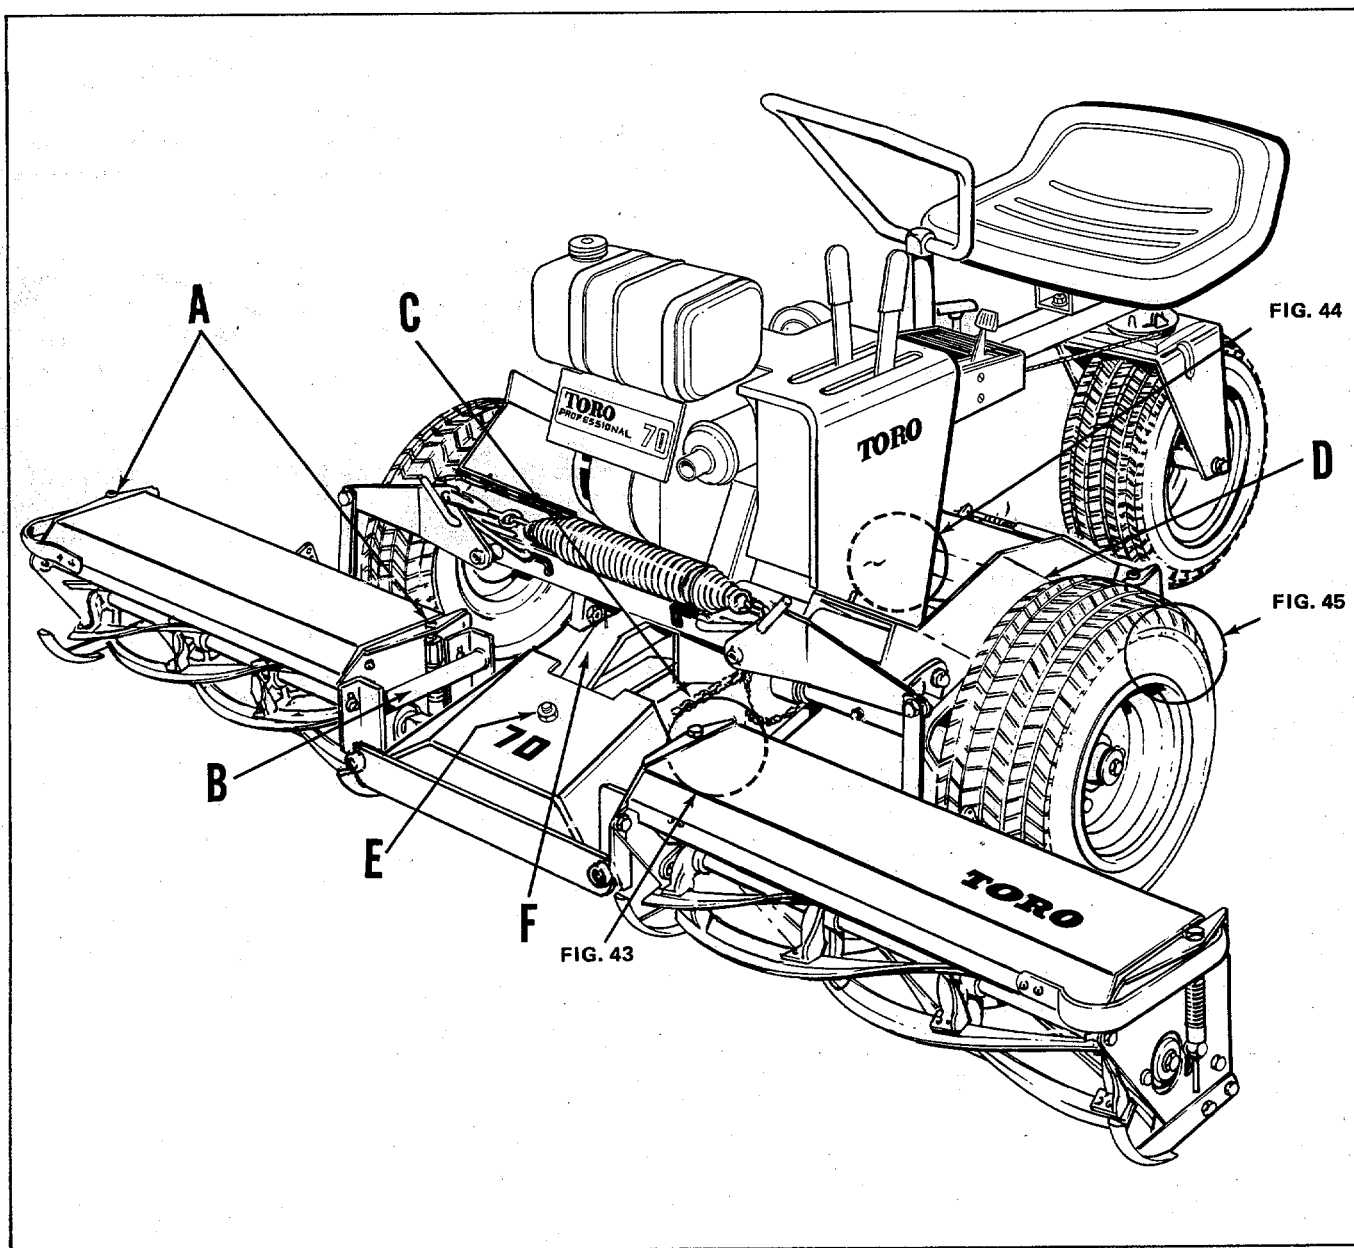
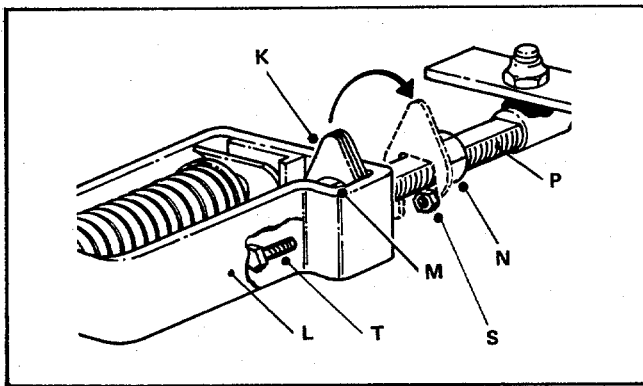

Figure 42
Figure 44
Attitude is the relationship of the cutting unit to a level ground surface. Proper attitude occurs when the side plate flanges 'A' (of the three cutting units) are all level with the ground and parallel with each other (Fig. 42).
3. Adjust attitude by lengthening or shortening center ball joints 'E' (Fig. 42) or 'P' (Fig. 44) in yokes 'F' (Fig. 42) or 'L' (Fig. 44), being certain that the ball joints are locked securely in the yoke upon completion of adjustment.
Rear Cutting Unit Drive (Fig. 44 & 45)